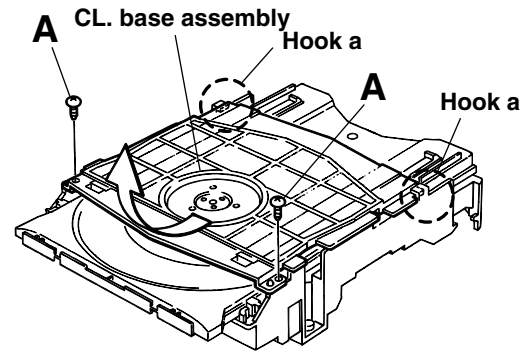

Fig. 1
■ Removing the front cover (See Fig.1 to 3)
■ Removing the CL. Base Assembly and Tray (Refer to Figs. 1 to 5.)